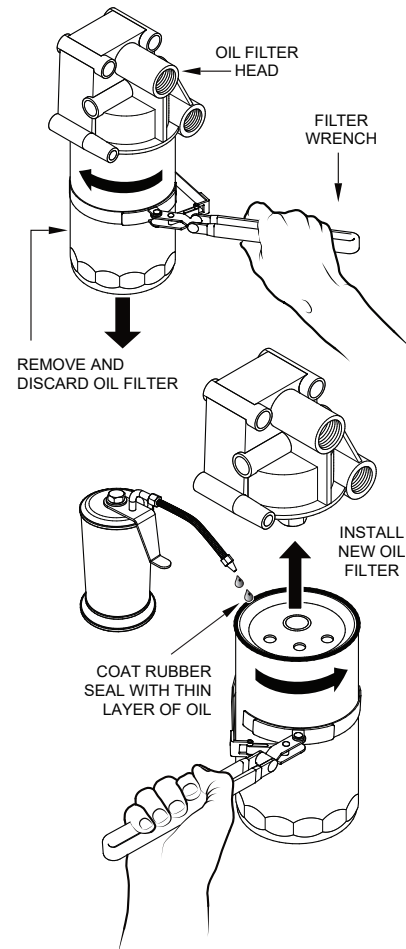

**Figure 71. Draining The Engine Oil**
3. Remove the **oil drain cap** (Figure 71).